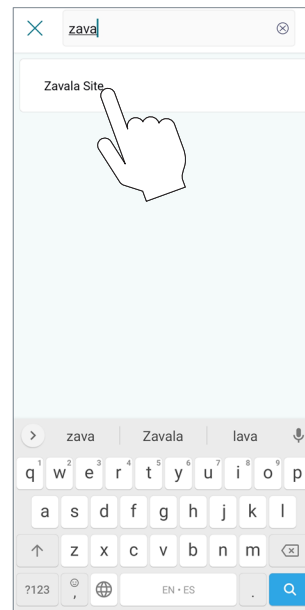

Figure 120. Choose Organization
4. "Choose organization" screen will be displayed and it will show all the available organizations. Navigate the sub-organization list or use the search tool to locate desired organization. See Figure 120.